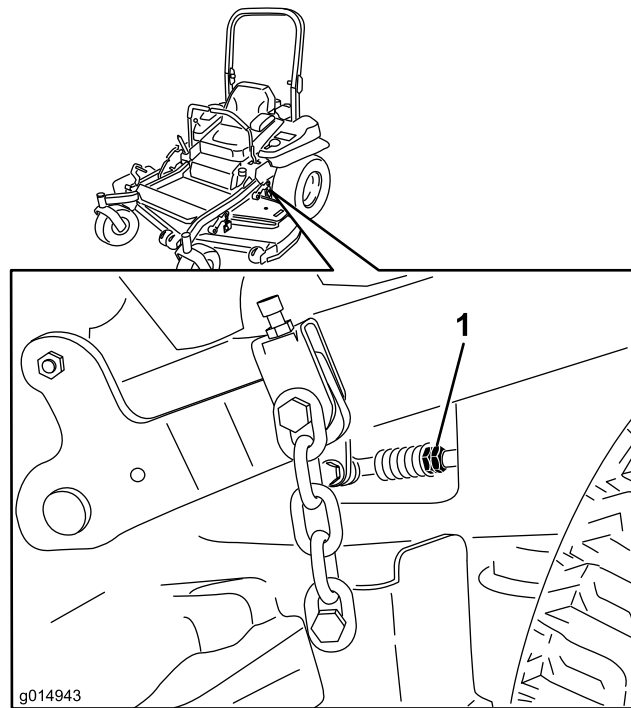

Figure 83
9. Adjust the pump control rod lengths by rotating the double nuts on the rod in the appropriate direction until the wheels slightly creep in reverse (Figure 83).